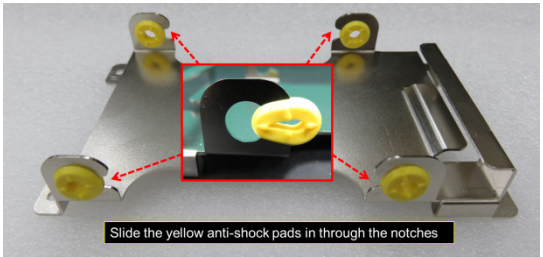

Figure 9
4.2.1.2 Slide in the yellow anti-shock pads into the side notches provided on the HDD tray as shown in Figure 9.